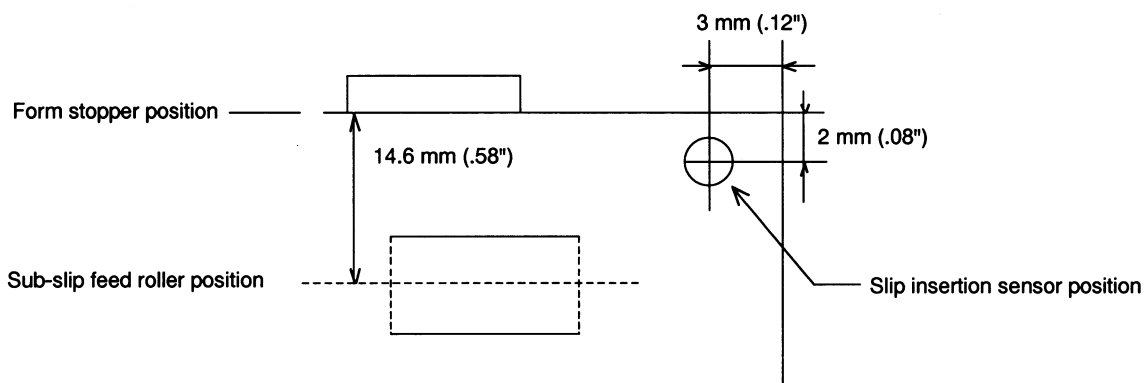

Figure 1.8.2 Slip Insertion Sensor Position
- Since the slip insertion sensor uses a photo sensor, do not use paper that has holes at the sensor position, or is translucent (refer to Figure 1.8.2).